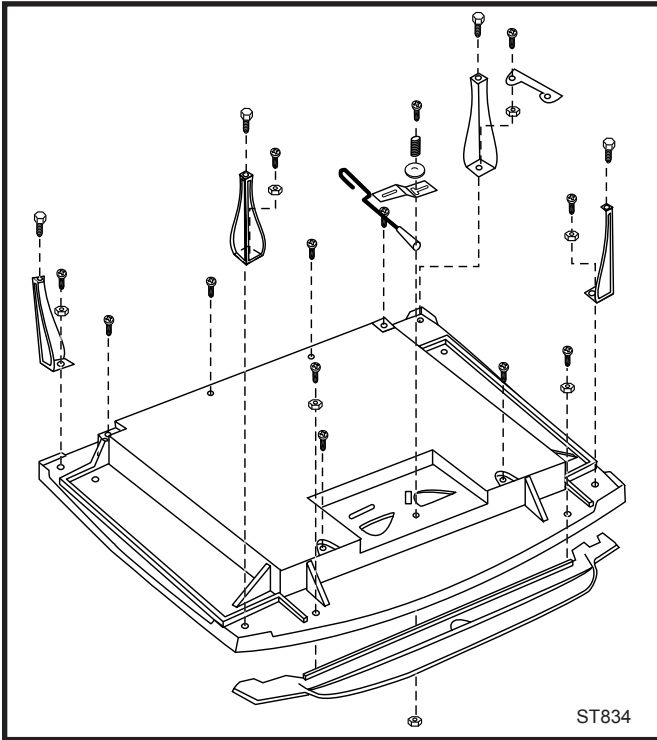

Fig. 1 Bottom assembly.
1. Invert the new bottom and place it on your rebuild stand. Install six hex head cap screws 10-24 x 1/2" if heat shields will not be used. (Fig. 1)
2. Install the four legs onto the stove bottom with the four hex head cap screws 3/8"-16 x 1" and three 3/8" flat washers plus one each holder, damper handle insert on the right rear leg. (Fig. 1)